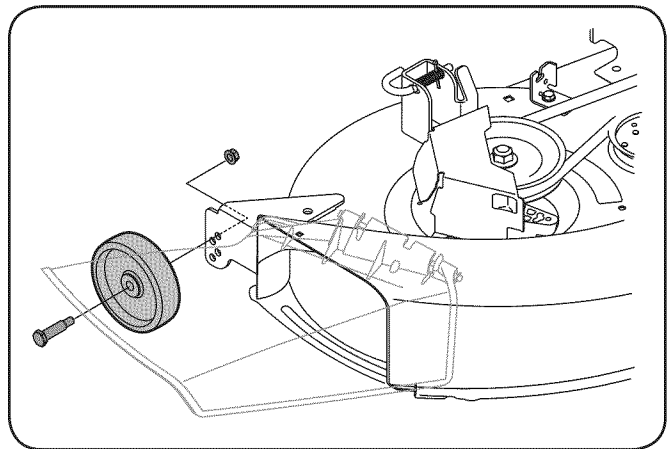

Figure 3-9
- b. Remove the gauge wheels by removing the lock nuts and shoulder screws which secure them to the deck. See Figure 3-9.